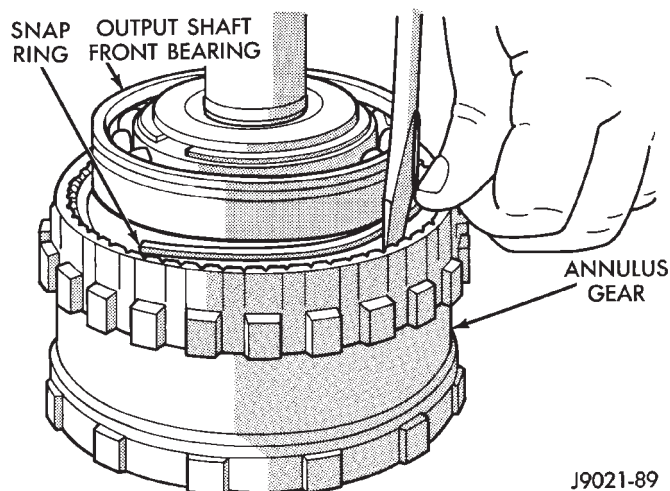

Fig. 36 Annulus Gear Installation
(3) Install annulus gear on output shaft, if removed. Then install annulus gear retaining snap ring (Fig. 36).